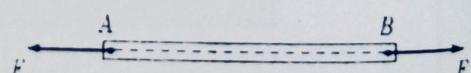

Fig 2.24
- **Equilibrium of body subjected to two forces (Fig 2.24 & 2.25):**